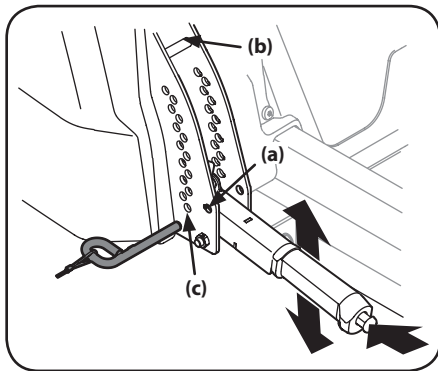

Figure 4-14
- a. Using the deck lift handle, raise the deck to the DECK REMOVAL/INSTALLATION POSITION (a). See Figure 4-14.
- d. Lower the deck into the DECK REMOVAL/INSTALLATION POSITION (a) using the deck lift handle. See Figure 4-14.
- e. Lower the deck into the DECK REMOVAL/INSTALLATION POSITION (a) using the deck lift handle. See Figure 4-14.
1. Place the deck lift handle in the highest mowing position (b). See Figure 4-14.